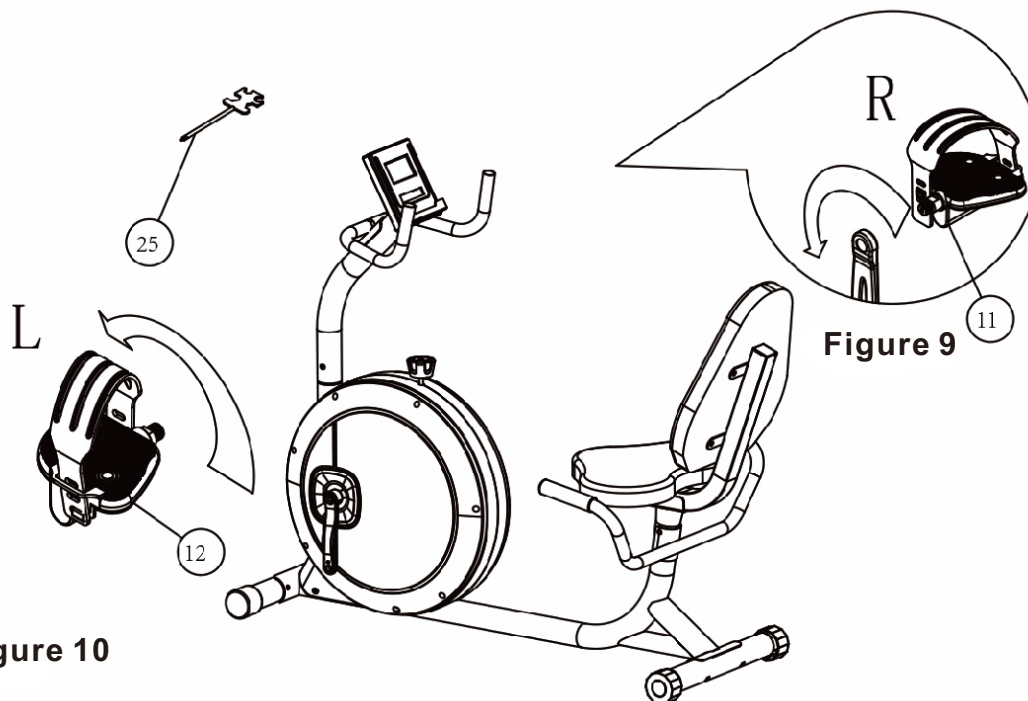

Figure 10
10. Align the pedal L with the crank thread opening and install it by rotating it counterclockwise in the direction of the arrow head. As shown in Figure 10.